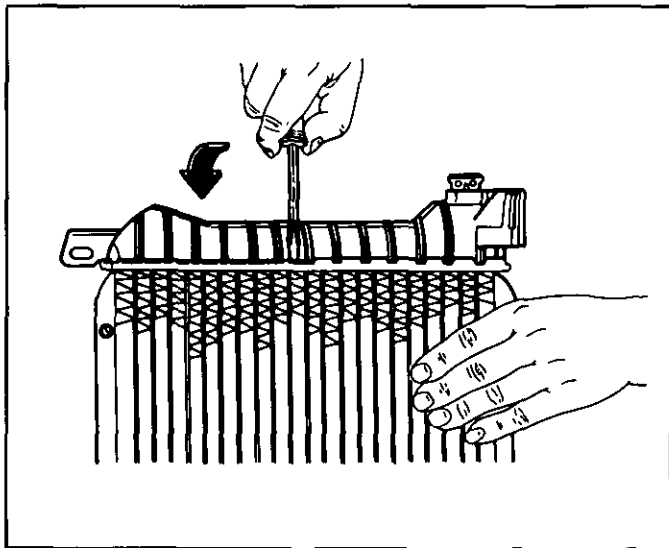

Fig. 35 Opening Clinch Tabs
1. Pry open the clinch tabs, except those under inlet, outlet, and filler necks, using J-33419-1 or a screwdriver (Fig. 35). Lift the tabs only enough to allow removal.